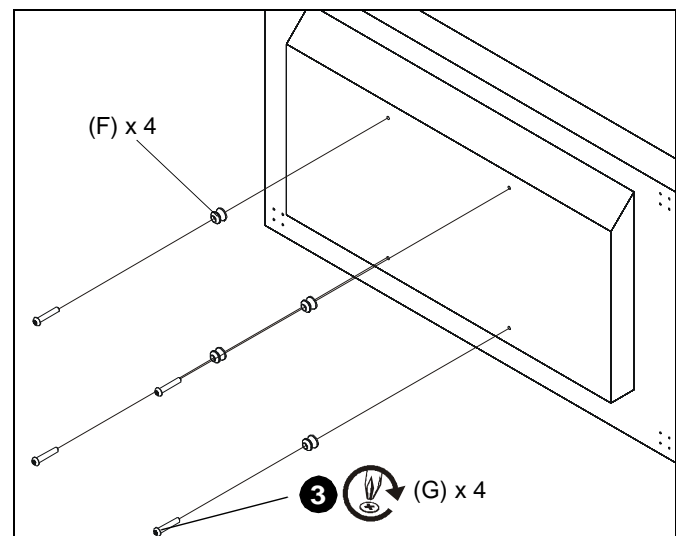

Figure 6
1. Use four M8 x 25mm Phillips pan machine screws (G) to attach four mounting buttons (F) to center holes on back of display. (See Figure 6)